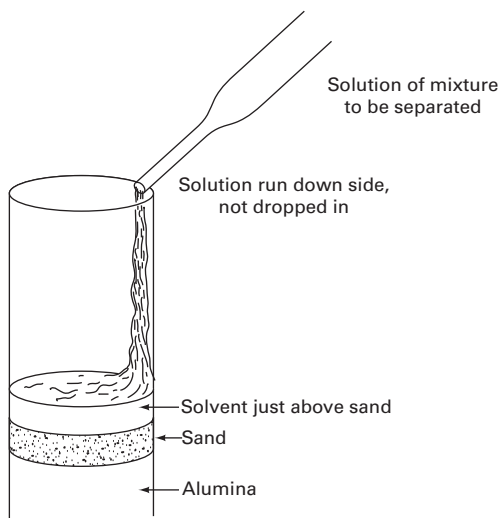

FIGURE 28.3 Putting compounds on the column by pipet.
1. Use a pipet and rubber bulb to slowly and carefully add the sample to the top of the column (Fig. 28.3). *Do not disturb the sand!*